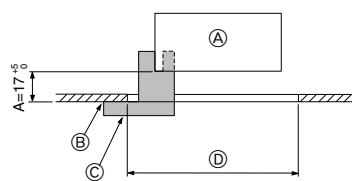

Fig. 10-2
①	Grille	1	950 × 950 (mm)
②	Screw with captive washer	4	M5 × 0.8 × 25
③	Gauge	1	(Divided into four parts)
④	Fastener	2
⑤	Screw	4	4 × 8
⑥	Wireless remote controller	1	for PLP-6AALM
⑦	Wired remote controller	1	for PLP-6AAM
10.2. Preparing to attach the grille (Fig. 10-2)
- With the gauge ③ supplied with this kit, adjust and check the positioning of the unit relative to the ceiling. If the unit is not properly positioned relative to the ceiling, it may allow air leaks or cause condensation to collect.